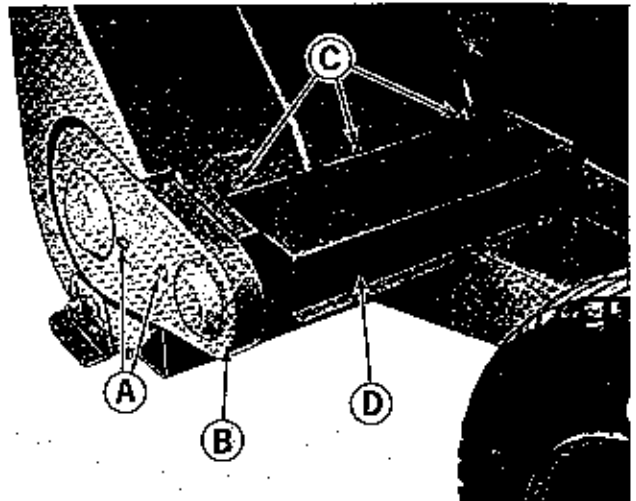
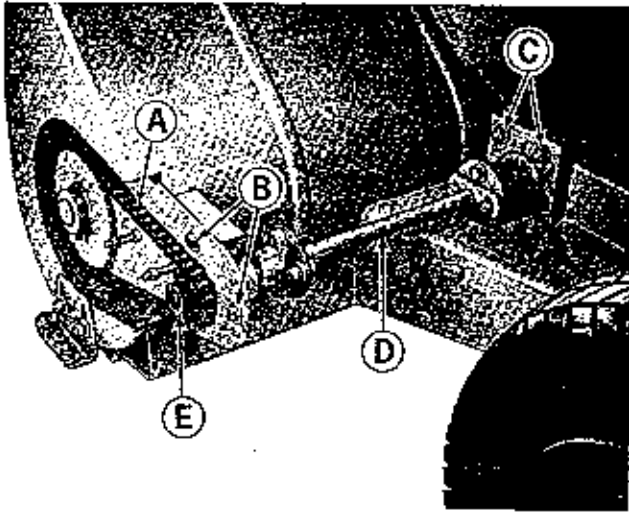

Figure 16. Left rear corner of snow thrower.
Figure 17. Snow thrower drive chain and cross drive shaft.
1. See figure 16. Remove the two nuts (A) and drive chain cover (B).
2. See figure 17. The drive chain (A) should be inspected for wear and replaced if worn badly.
3. After inspecting chain (A), and replacing if necessary, tighten it as follows until all slack is removed.
- a. See figure 16. Remove the 5 capscrews (C) and remove guard (D).
- b. See figure 17. Slightly loosen the three capscrews (B) and the four nuts and capscrews (C).
- c. Pull rearward on chain sprocket (E) until all slack is removed from chain (A) and tighten the three capscrews (B) securely.
- d. Move the right end of drive shaft (D) forward or back as necessary so drive shaft (D) is parallel with the snow thrower housing.
- e. Tighten the four capscrews (C) securely.
- f. See figure 16. Replace guard (D) using 5 capscrews (C).
4. See figure 17. After drive chain (A) has been tightened so all slack has been removed, spread a liberal coating of multi-purpose grease on it.
5. See figure 16. Replace chain cover (B) and tighten nuts (A) in place securely.